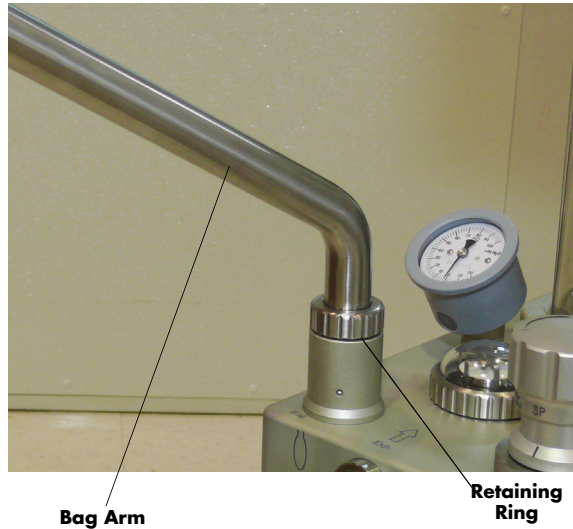

FIGURE 3-16 Bag Arm Removal
1. Turning it counterclockwise, loosen the bag arm retaining ring and then remove the bag arm from the breathing system block (see FIGURE 3-16).